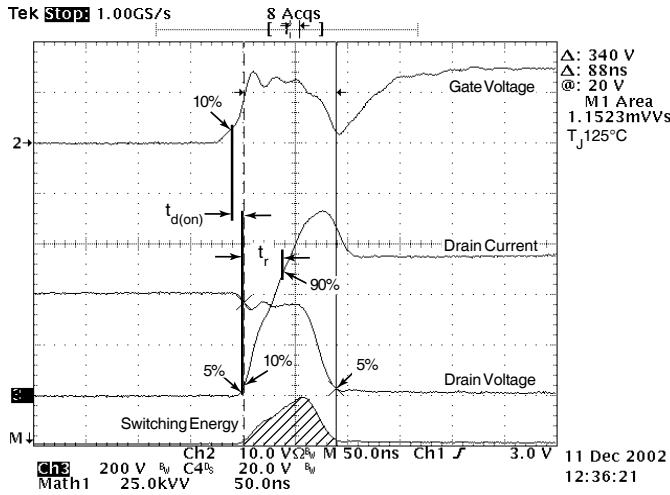

Figure 18, Turn-on Switching Waveforms and Definitions
- ① Repetitive Rating: Pulse width limited by maximum junction temperature
- ② Pulse Test: Pulse width < 380  $\mu s$ , Duty Cycle < 2%
- ③ See MIL-STD-750 Method 3471
- ④ Starting  $T_j = +25^\circ C$ ,  $L = 2.06mH$ ,  $R_G = 25\Omega$ , Peak  $I_L = 54A$
- ⑤  $dv/dt$  numbers reflect the limitations of the test circuit rather than the device itself.  $I_S \leq -I_D 54A$   $di/dt \leq 700A/\mu s$   $v_R \leq 600V$   $T_j \leq 150^\circ C$
- ⑥  $E_{on}$  includes diode reverse recovery. See figures 18, 20.